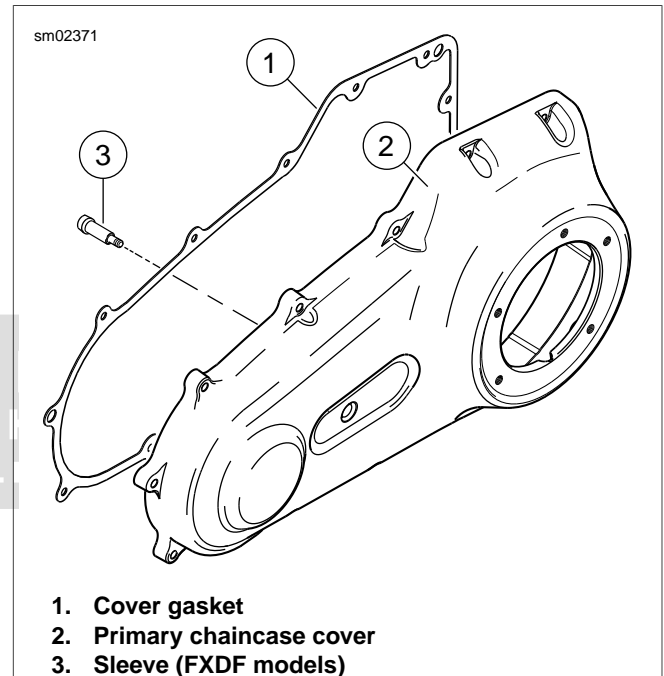

Figure 5-2. Primary Chaincase Cover Gasket
1. See Figure 5-2. On FXDF models, be sure sleeve (3) is installed in primary chaincase cover (2). Apply two drops of LOCTITE THREADLOCKER 262 (red) to sleeve threads and tighten sleeve to 15-19 ft-lbs (20.3-25.6 Nm).
3. See Figure 5-2. Install new cover gasket (1).